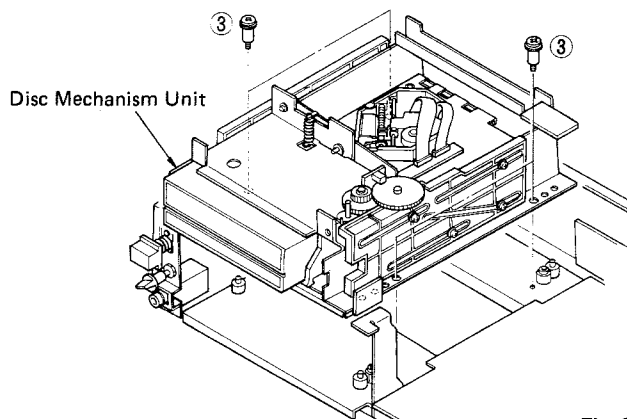

Fig. 2
Remove 4 screws (③) in Fig. 2.